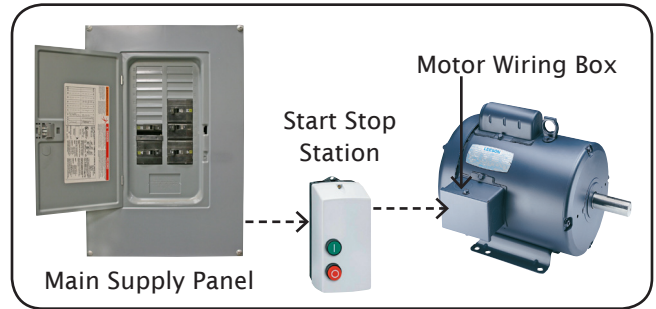

figure 1
2. Electrician to run power from main supply panel to motor starter or stop start station, & then to motor wiring box. Check motor wiring schematic to ensure wired for proper voltage. (Fig. 1)